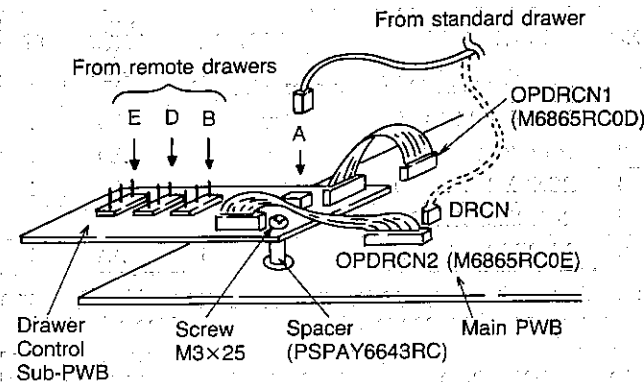

Fig. 8-11
- ⑥ Disconnect the standard drawer cable from DRCN connector on the main PWB, and connector it to the 2-pin connector A on the drawer control sub-PWB. (See Fig. 8-11)
And lead the cable of the remote drawer to the sub-PWB, then connect it to 3-pin connector B, D or E as shown in Fig. 8-11 and 8-15.